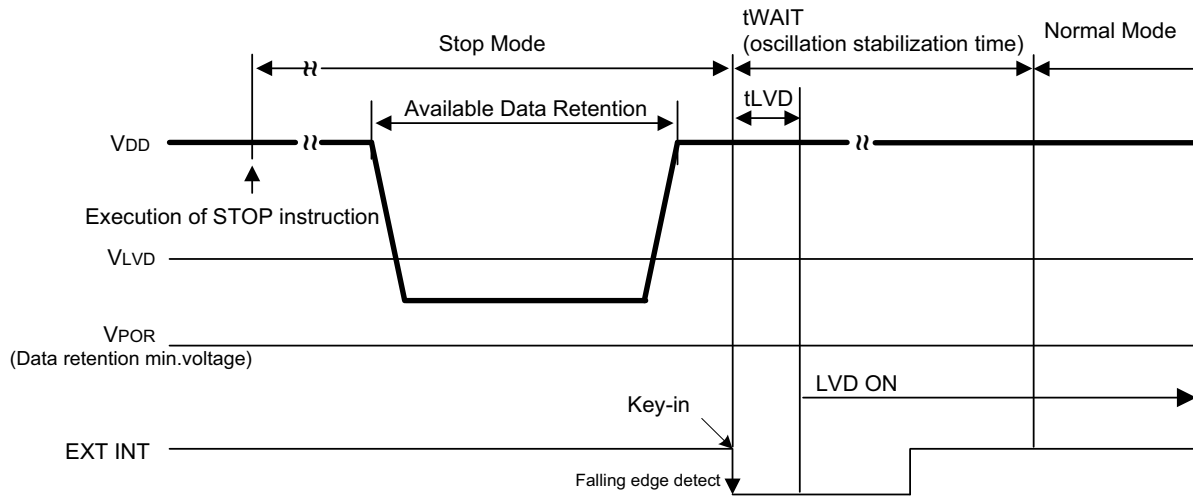

Figure 88. Stop Mode to Normal Mode Timing Diagram 1
- Stop Mode to Normal Mode Timing Diagrams – see Figures 88 and 89, beginning on page 287